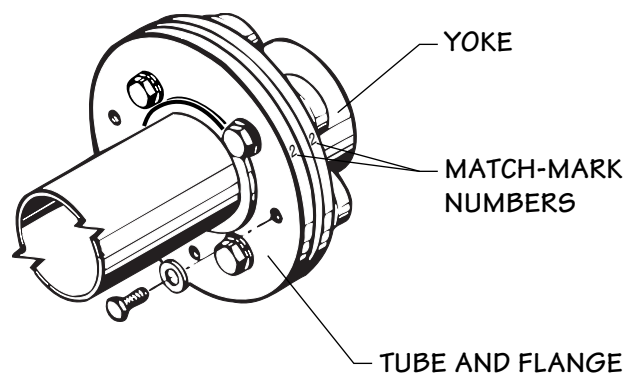

Figure 3 6Q series shown
Marley driveshafts consist of a motor and Geareducer yoke with rubber bushings and a tube and flange assembly. Driveshafts are balanced dynamically and tube and yoke flanges are match-marked. See Figure 3. Do not change position or relation of match-marked components during installation.
7. Replace the driveshaft tube and flange assembly. Be sure to match the numbers on the tube flanges with their respective numbers on the motor and Geareducer yokes. Install $\frac{5}{8}$ " machine bolts or cap screws in each end of driveshaft. Tighten to 60 ft-lbf (82 N·m) torque. See Figures 3 and 4.